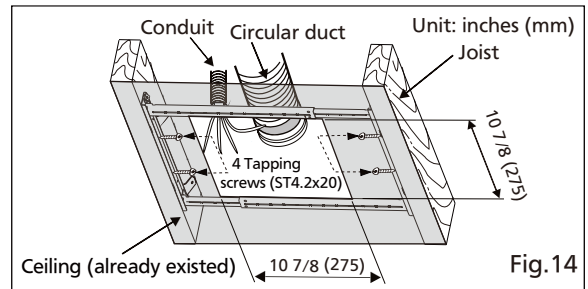

Fig.14
1. Remove the existing fan and cut ceiling opening. Secure the Flex-Z Fast™ bracket to joists by using 4 tapping screws (ST4.2x20) (Please prepare the screws and put on Flex-Z Fast™ bracket before Flex-Z Fast™ bracket is installed on joist). Existing ductwork and wiring left in place. (Fig.14)